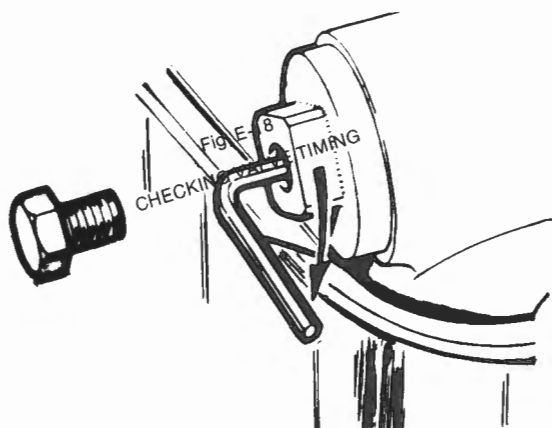

Fig. E-19
- Ensure the timing marks are aligned as detailed in item 3 of checking procedure.
- Retract and lock the timing chain tensioner. Refer Fig. E-19.